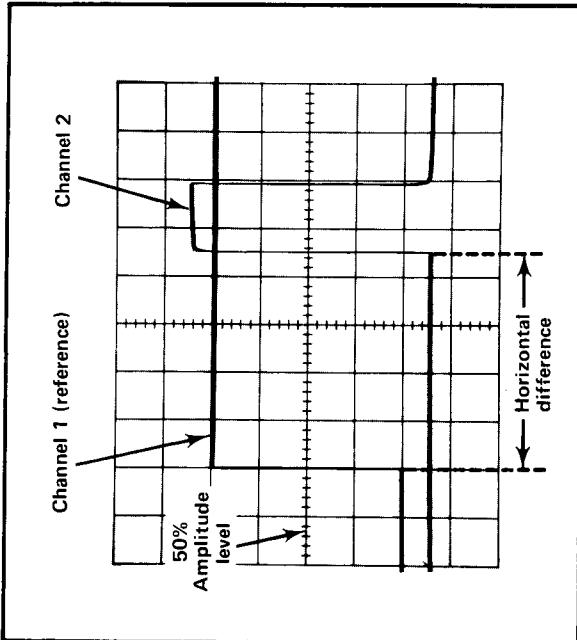

Fig. 6. Measuring time difference between two pulses.
11. Measure the horizontal difference between the Channel 1 waveform and the Channel 2 waveform (see Fig. 6).
Example. Assume that the TIME/DIV switch is set to $50 \mu\text{s}$, the MAG switch to $\times 10$ and the horizontal difference between waveforms is 4.5 divisions (see Fig. 6).